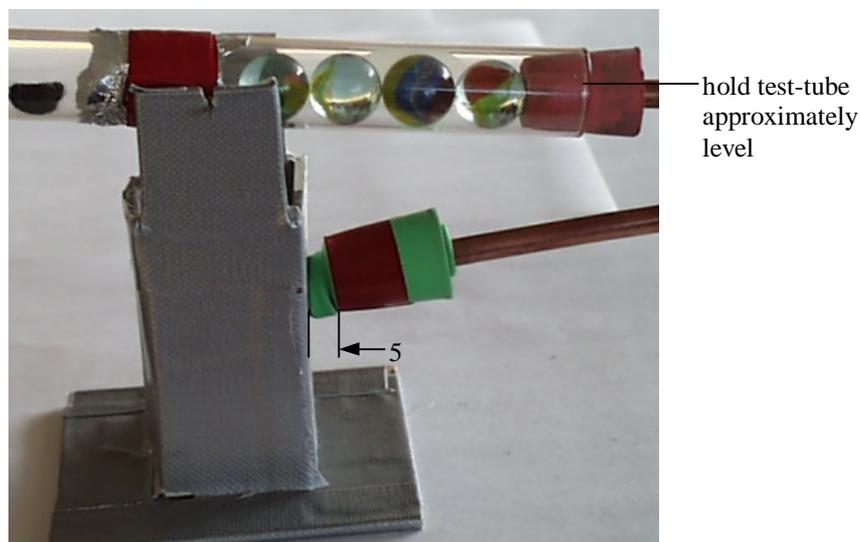

Figure 3.1. Setting the stroke on the engine.
- 3.1. Set the stroke to 5mm, i.e. slide the test-tube in the trunnion assembly so that when the test-tube is level there is about 5mm clearance between the end of the diaphragm-piston bung and the engine stator, as shown in Figure 3.1.